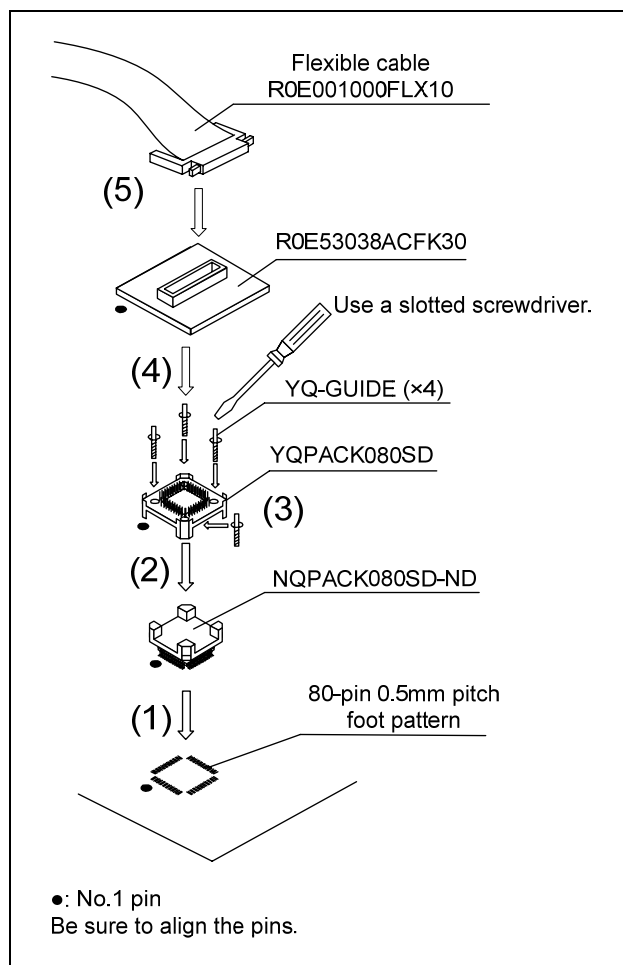

Figure 3 Connection procedure of the R0E53038ACFK30
5. Connection Procedure (See Figure 3)